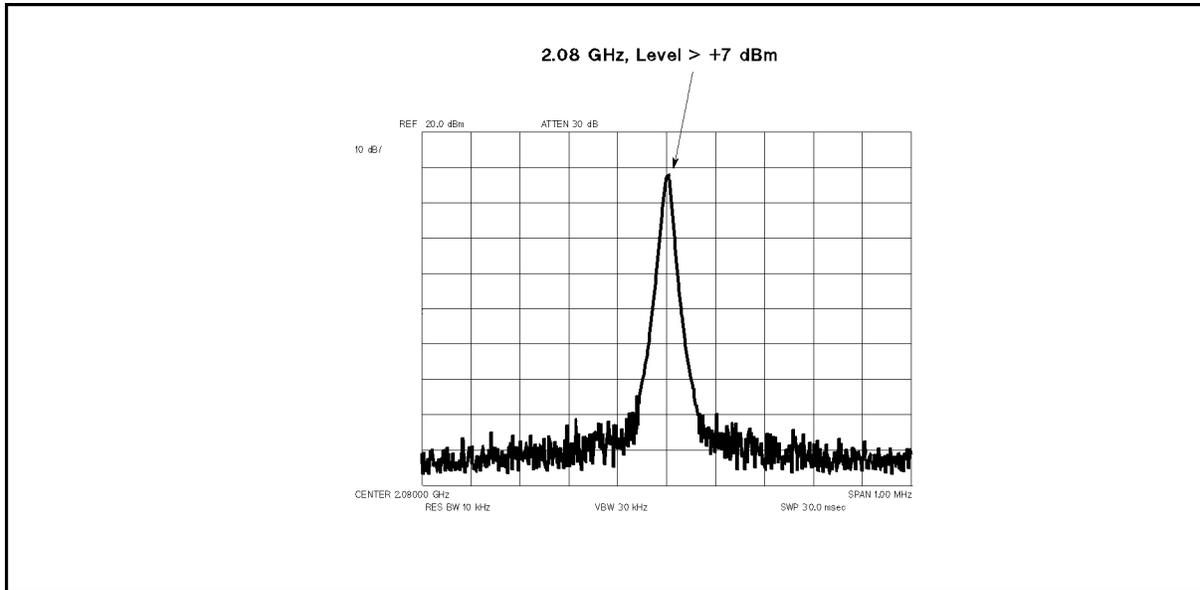

Figure 7-16. Typical 2nd Local Oscillator Signal
- d. Check that the frequency is 2.08 GHz and the level is higher than +7 dBm. The 2nd local oscillator signal should be as shown in Figure 7-16.